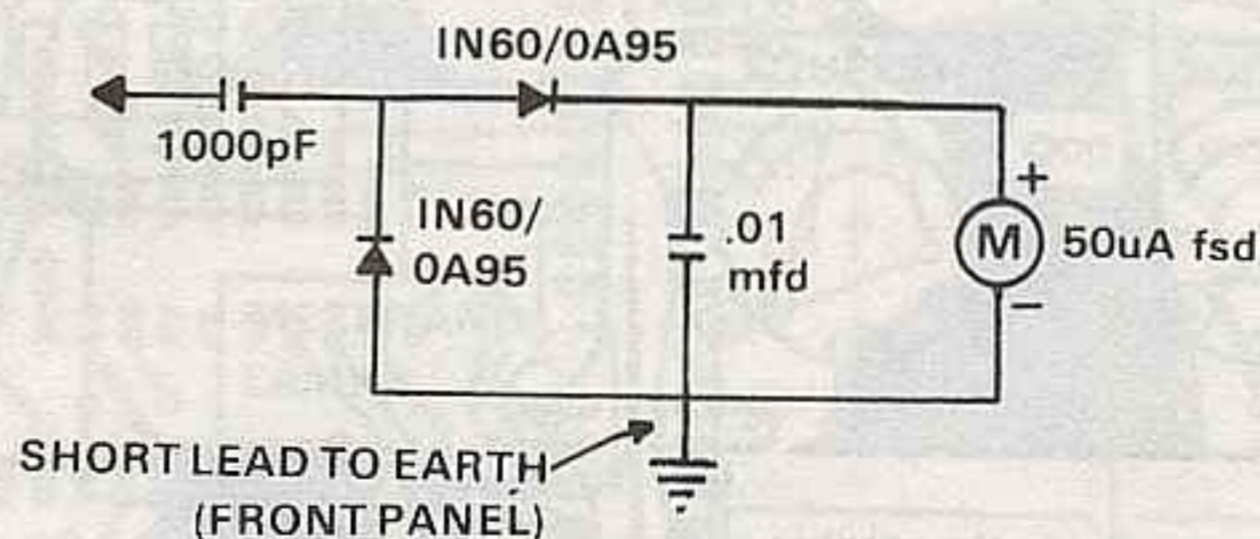

FIG.8 TEST PROBE SCHEMATIC
2. Check TP2 (output from L18), located at E15, offset oscillator for RF output. Use a sensitive RF probe or test probe as shown in Fig.8.